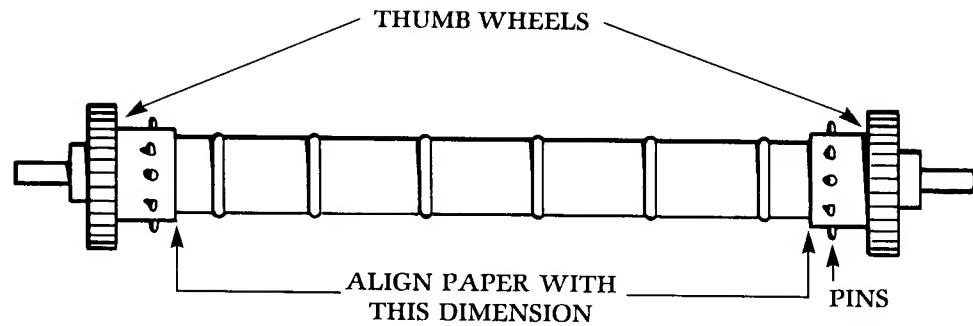

Figure 7. Paper Drive Roller
10. Slip the edge of the paper under the **PAPER DRIVE ROLLER** and align the paper (Figure 7).
5. Slip the edge of the paper under the **PAPER DRIVE ROLLER** and align the paper as shown in Figure 7.